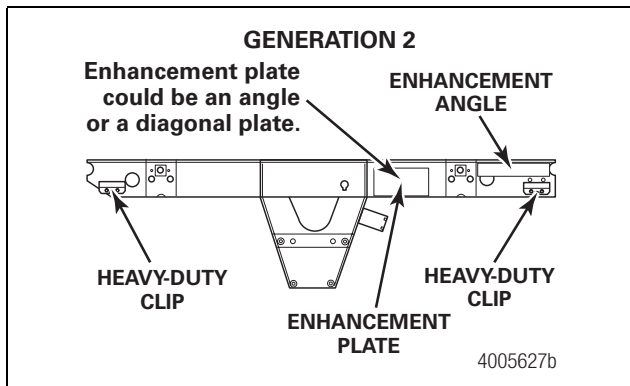

Figure 66
2. Identify the slider. Figure 66, Figure 67, Figure 68 and Figure 69.